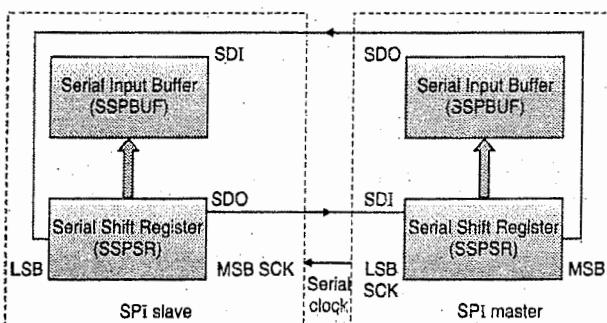

Fig. 12.9.4 : SPI master and SPI slave connection
- Fig. 12.9.4 shows SPI master-slave connection.